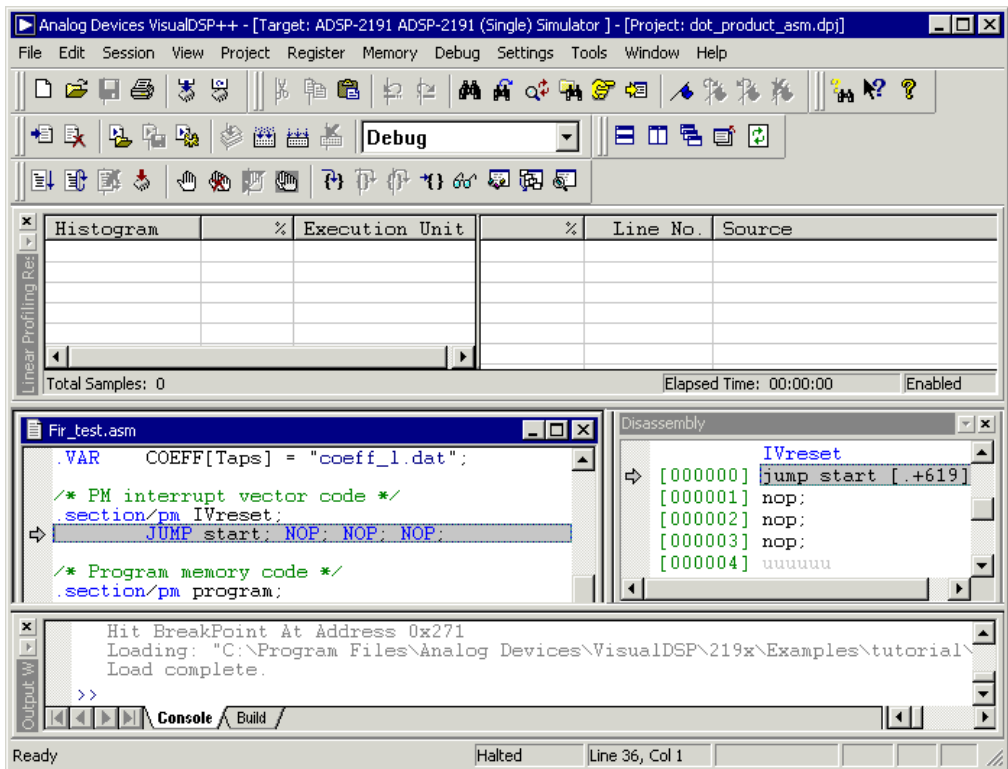

Figure 2-35. Linear Profiling Results Window (Empty)
2. For a better view of the data, use the window's title bar to drag and dock the window to the top of the VisualDSP++ main window, as shown in Figure 2-35 on page 2-47.